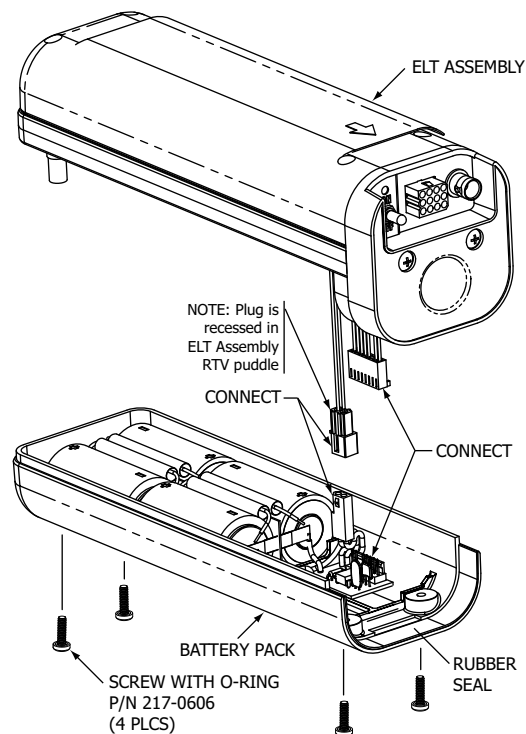

Figure 24. Battery Pack Installation
- (1) This subtask applies to reinstallation of an existing battery that was removed for inspection and testing.
- (2) See "Figure 24. Battery Pack Installation".